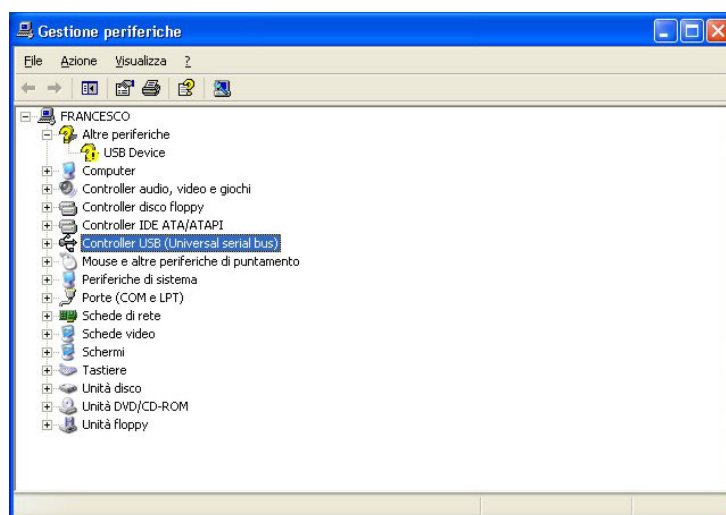

Fig. 2.2– *Device manager* window: USB drivers installation problems
- a. Control your PC's Control Panel (click Start \ Settings \ Control Panel \ System \ Device management): if you see a voice like **Unknown Peripheral** or **Unknown USB device** with a yellow question mark or a red cross (see Figure 2.2), please select that voice and remove it (click the mouse right button and select the "Remove" option). Then switch off your data logger, unplug the USB cable from the PC's USB port, re-plug the USB cable in the PC's USB port and repeat the previously described installation procedure.